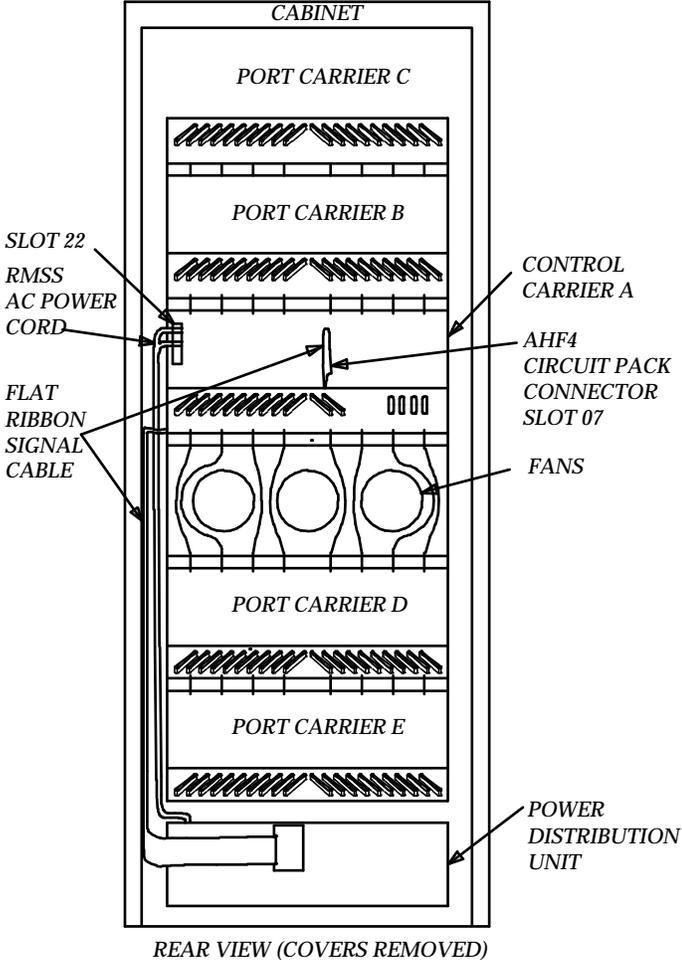

FIGURE 2-26. R1V3 System Cabinet—Rear View, Covers Removed
2. Disconnect the AHF4 cable adapter from the rear of the "A" carrier (see Figure 2-26).